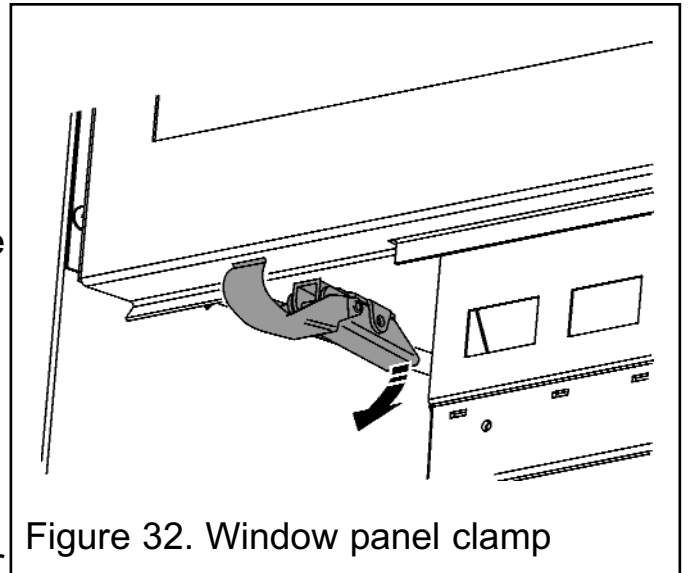

Figure 32. Window panel clamp
2. The window panel is secured at the bottom with two clamps. To release the clamps, hold at the rear and pull down (See figure 32).